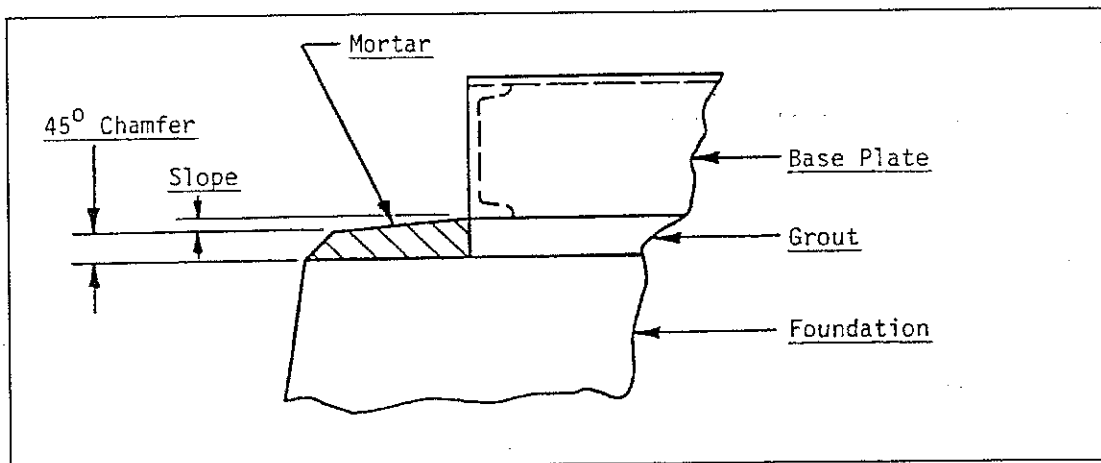

Figure 4
6. The exposed edge of the grout can now be finished as shown in (Figure 4).